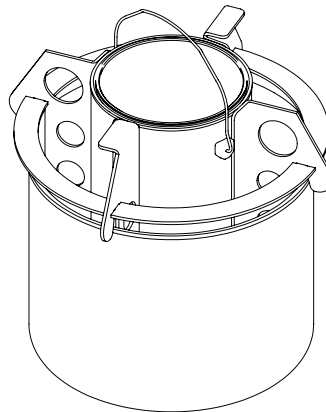

Figure 2
- **1 Gallon Round Cans:** Place the can inside the gallon adapter, A1501. Set the gallon can as shown with the lid up. (See Figure 2)